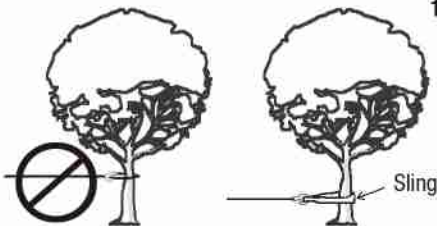

FIGURE 4
10. **NEVER HOOK THE WIRE ROPE BACK ONTO ITSELF.** This will damage the wire rope. Use a winch sling, tree saver or other recommended accessory for this type connection. (FIGURE 4)